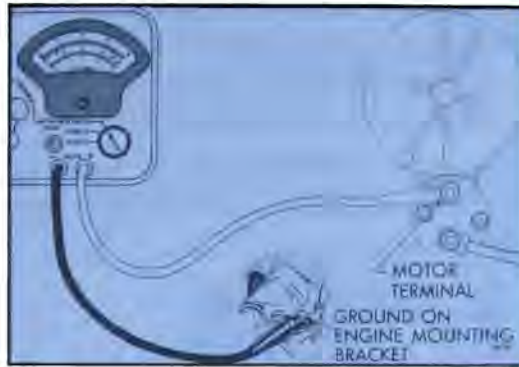

Figure 68-24—Cranking Voltage Test Connections
3. Connect voltmeter positive (+) lead to the motor terminal on solenoid switch; connect voltmeter negative (-) lead to ground. See Figure 68-24.